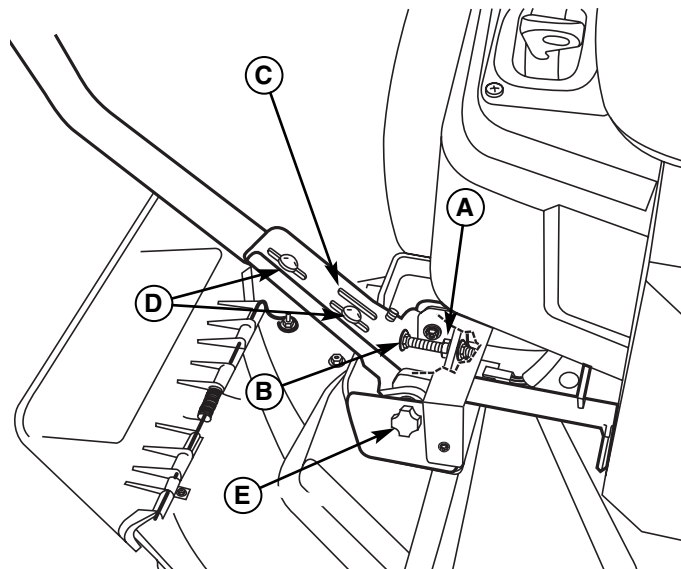
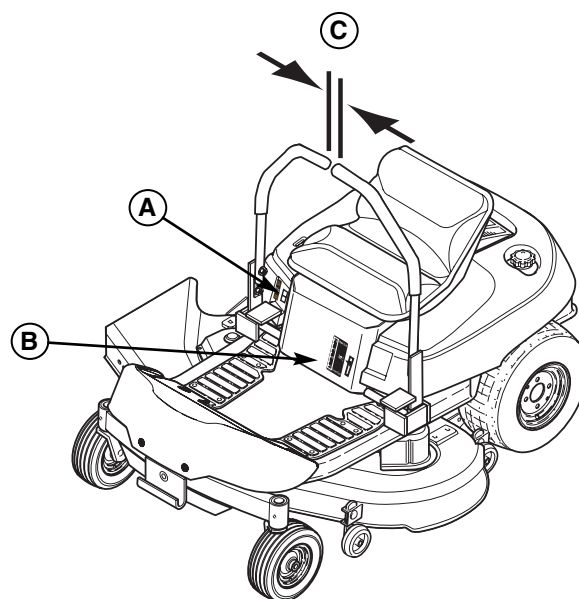

Figure 42. Control Lever Adjustment
Figure 43. Cutting Height Adjustment
To Adjust Control Lever Height: Pull the levers in across the operator's lap to their DRIVE positions. Loosen the mount bolts (D, Figure 42) and raise or lower the levers to the desired position. Tighten the mounting bolts.(D).
To Adjust Control Lever End Gap: The control lever end gap (C, Figure 43) should be adjusted so that the levers do not contact each other when placed in DRIVE positions. Loosen the jam nut (A, Figure 42) and adjust the length of the carriage bolt (B) so that the levers do not contact each other. Repeat on the opposite side. Tighten the jam nut (A) to lock the carriage bolt in position.
To Adjust Operator Clearance: The space between the operator and the control levers can be increase by removing the lower mounting bolt (D, Figure 42), pivoting the lever forward, and reinstalling the capscrew through the control lever and forward slot (C). Repeat with the other ground speed lever.
If the rider veers to the right or left when the ground speed control levers are in the maximum forward position, the top speed of the right lever can be balanced by turning the adjustment knob (E, Figure 42). Loosen the jam nut and turn the knob COUNTERCLOCKWISE to increase speed or CLOCKWISE to decrease speed. Tighten the jam nut when complete.
To increase the mower cutting height (raise the mower deck), press the top of the mower cutting height switch (A, Figure 43) To decrease mower cutting height (lower the mower deck), press the bottom of the switch. Mower cutting height range is 3-3/4" to 1-1/2". The cutting height gauge indicates the position of the mower deck.. The cutting height gauge (B) is located on the front of the rider, just behind the driver's left leg.